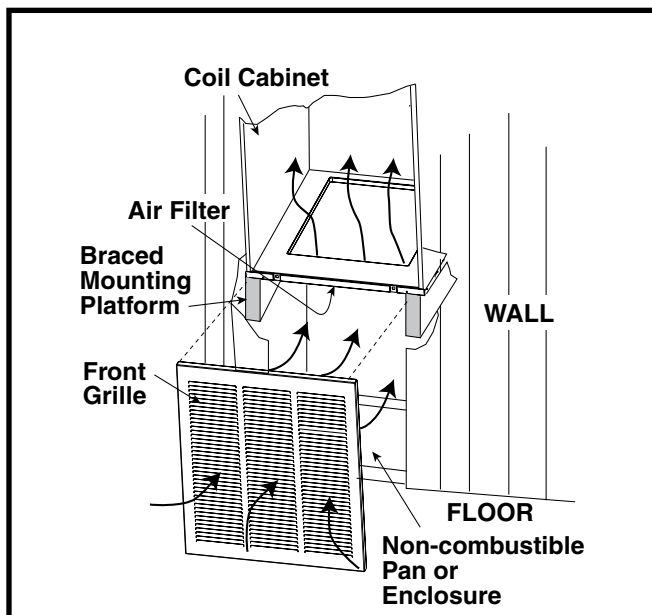
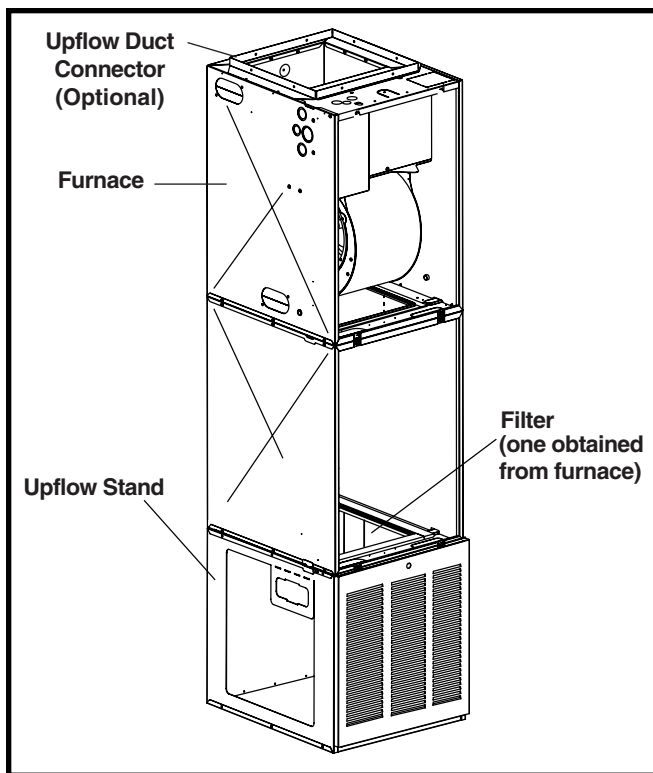

Figure 15. Over-the-Floor Return Air System
Figure 16. Over-the-Floor Return Air System with Upflow Stand
1. If floor underneath furnace is made of combustible material, locate a pan fabricated of non-combustible material with 1" upturned flanges under furnace return air opening. See Figure 15 \(page 12\).
2. Use optional upflow stand (P/N 904620A) with filters or construct a suitably braced mounting platform in closet. See Figure 15 or Figure 16 \(page 13\).
6. Use optional upflow duct connector or field supplied connector to attach furnace to overhead supply duct. See Figure 16.
7. Install return air grille in closet preferably at same level as upflow stand or below mounting platform. See Figure 15.
5. Use field supplied connector to attach furnace to overhead supply duct. See Figure 16.